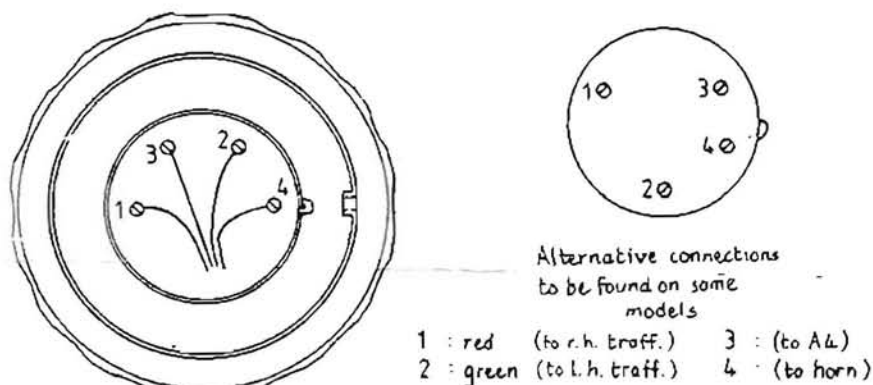

Figure 2 - Underneath of Steering Wheel Switch
- 4) To check the slip-ring unit, remove the screw which holds the steering wheel switch in the steering wheel hub and gently pull out the switch. Don't undo the wires. Connect a test lead from terminal 4 on the switch unit (see figure 2) to earth at the battery. (Terminal 4 is the one with a yellow wire and a second wire running from the terminal post into the bowels of the switch unit). If the horn sounds, the slip-ring unit and horn wiring are O.K., but make sure the test is carried out as the steering is turned from lock to lock. If the horn does not sound, check the alignment of the slip-ring unit (already dealt with).
Remove the single countersunk screw holding the steering wheel switch unit and gently pull out the switch unit. Switch on the ignition. Refer to figure 2. Connect the test lead between 1 (red) and 3 (purple) and the r.h. trafficator should work. Connect between 2 (green) and 3 (purple) and the l.h. trafficator should work. These tests should be carried out with the steering wheel at different positions between full lock one way and full lock the other. If the trafficators do work, then the slipring unit is working correctly, and the wiring in the steering column is all right. The fault most probably lies in the steering wheel switch unit. If as a result of this test the trafficators do not work then there is a fault between the slipring unit and the steering wheel switch unit, or in the slipring unit itself. Check the slipring unit as outlined in the next section and if that doesn't cure the fault go on to the section on steering column wiring. If the AUX IGN fuse blows there is a short to earth, probably in the steering column wiring.